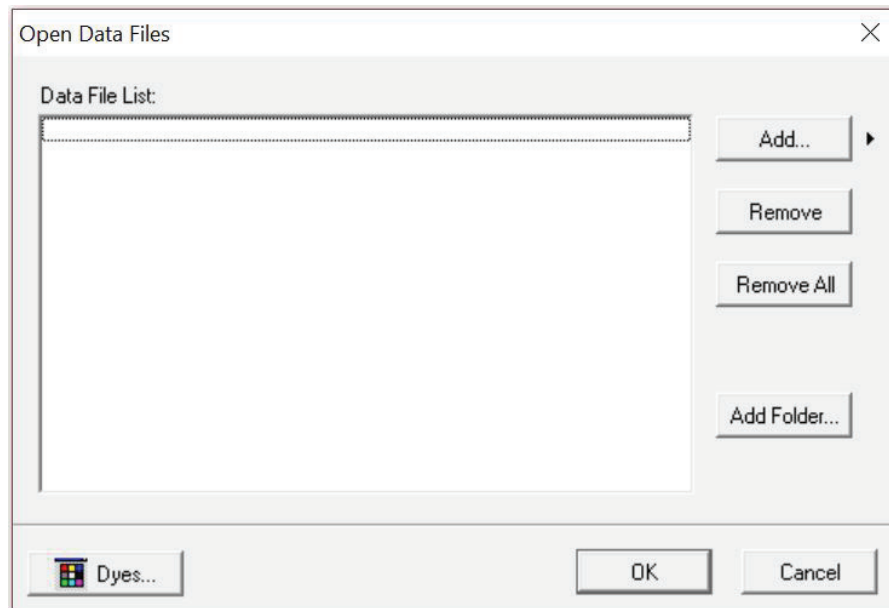

Figure 26. The GMHID-Spectrum Data File List.
4. Select **Open**, and the selected files will appear in the Data File List (Figure 26).